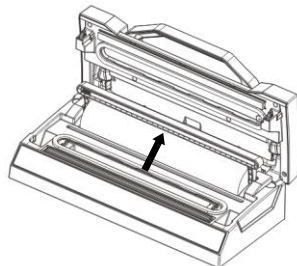

Fig.2
2. Make sure the bag cutter is on one end of the cutter rack, Then put the cutter rack to the back– **Fig.2**